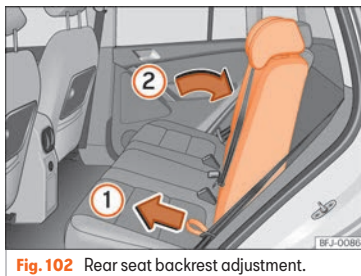

Fig. 102 Rear seat backrest adjustment.
- Press the right or left backrest of the seat with one hand and, at the same time, pull from the corresponding cord with the other » **Fig. 102 ①**.
- Move the backrest with your hand to the desired position; there will be some resistance ②.